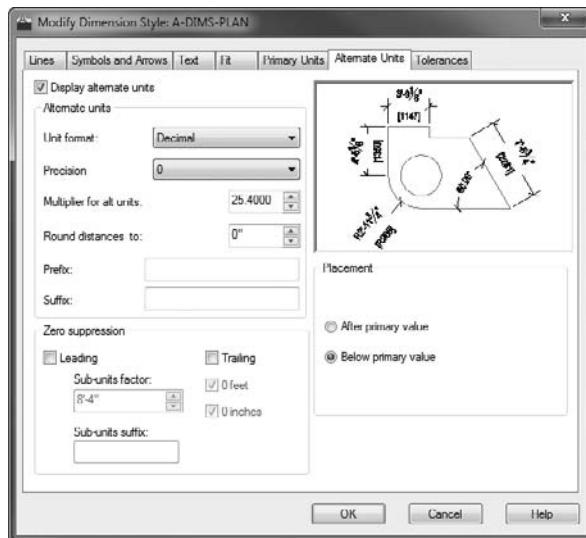

FIGURE 12.13 The Alternate Units tab after being set up for millimeters
If your work requires your dimensions to display both metric and architectural units, use the Alternate Units tab in the New Dimension Style dialog box or the Modify Dimension Style dialog box when you are changing an existing style. In the example shown in Figure 12.13, the primary units setting is Architectural (Decimal). Now you'll set up the alternate units:
4. Click the Alternate Units tab. (Look ahead to Figure 12.13 to see what the style will look like when you're finished here.) You'll make only three or four changes on this tab.
9. In the lower-right quarter of the tab, in the Placement area, select Below Primary Value. This has the effect of placing the alternate units below the primary units and on the opposite side of the dimension line. The tab should look like Figure 12.13.